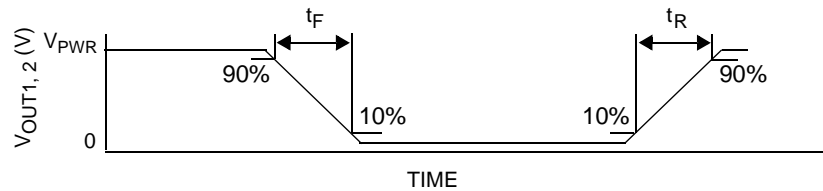

Figure 6. Output Switching Time
27. Rise Time is from the 10% to the 90% level and Fall Time is from the 90% to the 10% level of the output signal with $V_{PWR} = 14\text{ V}$, $R_{\text{LOAD}} = 3.0\text{ ohm}$. See Figure 6, page 9.